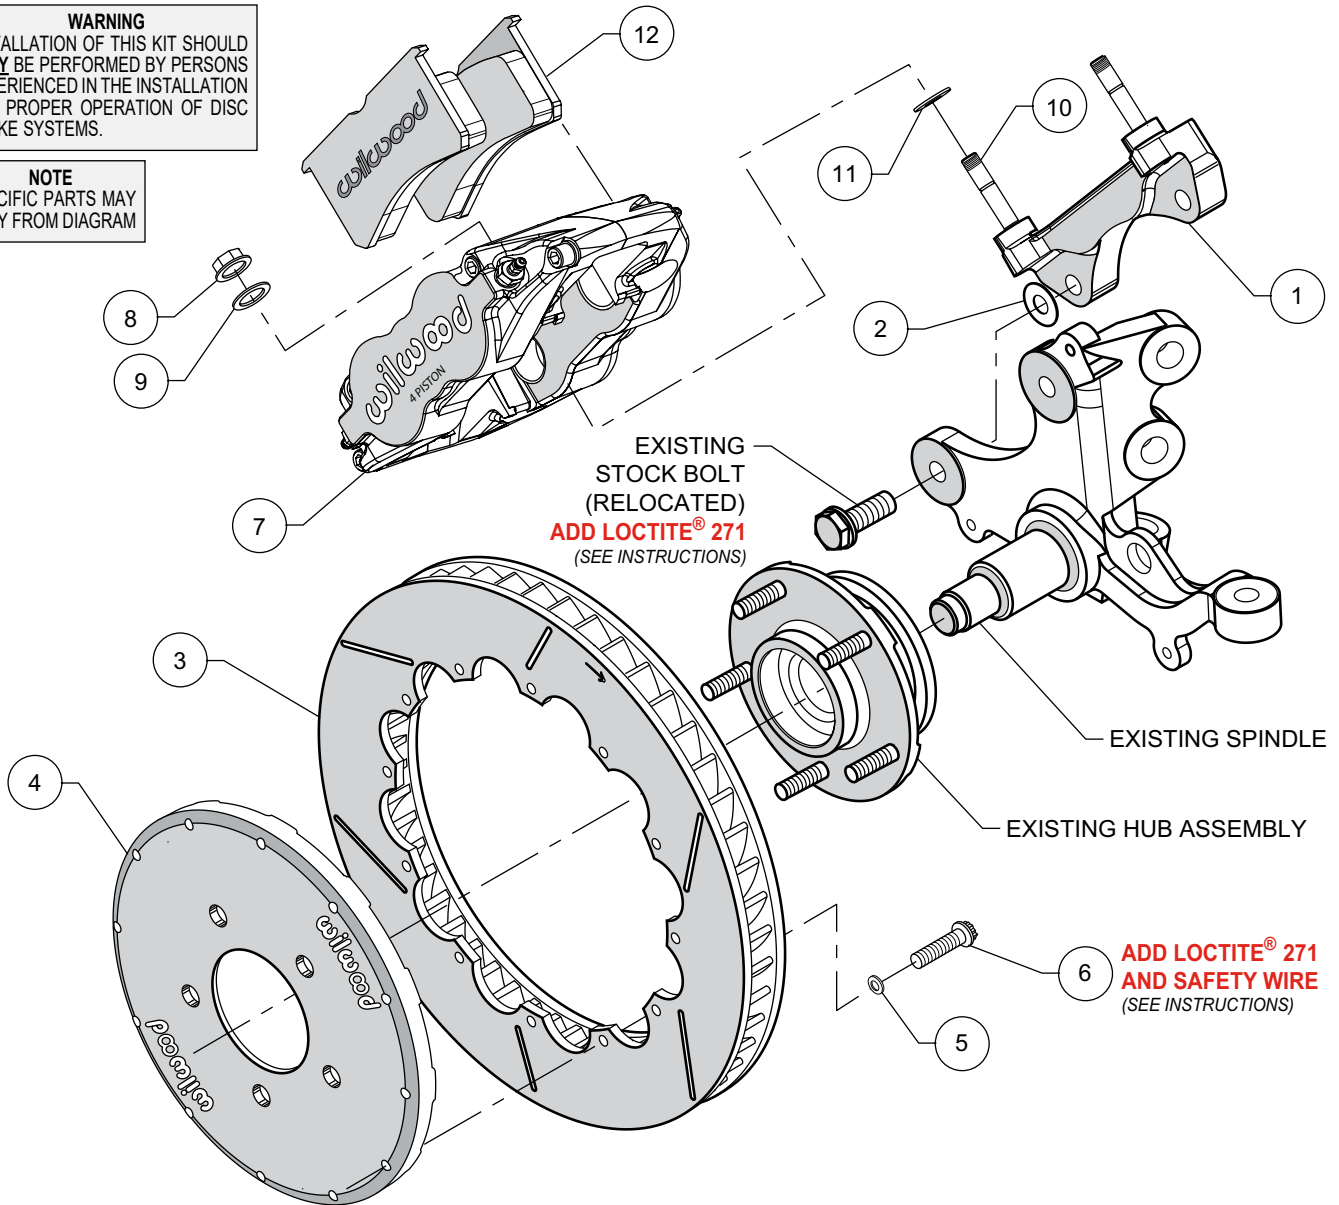
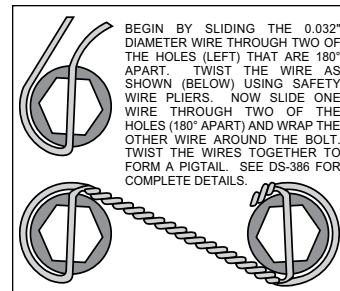

Figure 1. Typical Installation Configuration
Figure 3. Safety Wire Diagram
Assembly Instructions (numbers in parenthesis refer to the parts list and Figure 1 on the preceding page):
- The caliper mount bracket (1) should initially be installed with clean, dry threads on the mounting bolts. Orient the bracket as shown in Figure 1, and install using OEM bolts from the outboard side (opposite from the way they were removed). Initially place one .033 thick shim (2) on each bolt between the bracket and spindle, Figure 1. Temporarily tighten the mounting bolts. Later, after the caliper alignment has been checked, the mount bolts will be secured using red *Loctite*® 271.
- Orient the rotor (3) and the hat (4) as shown in Figure 1 and Photo 1. Attach rotor to hat using bolts (6) and washers (7). Apply red *Loctite*® 271 to the bolt threads and torque to 155 **in-lb** using a criss-cross pattern. The bolts must be safety wired using standard 0.032 inch diameter stainless steel safety wire as shown in Figure 3. Refer to Wilwood's data sheet DS-386 (available at www.wilwood.com/Pdf/DataSheets/ds386.pdf) for complete safety wire installation instructions.
- NOTE:** This kit contains distinct right and left hand calipers that must be mounted in a specific direction, as described below. Initially place one .035" thick shim (11) on each stud (10) as shown in Figure 1 and Photo 2. Mount the caliper (7) onto the bracket (1) using lock nuts (8) and washers (9), Figure 1. Ensure that the caliper is mounted so that the largest pistons are at the rotor exit end of the caliper, in relation to the direction of rotor rotation. Temporarily tighten the lock nuts and view the rotor through the top opening of the caliper. The rotor should be centered in the caliper, Photo 3. If not, adjust by adding or subtracting shims (2) between the bracket and the spindle. Always use the same amount of shims on each of the two mounting bolts. Once the caliper alignment is correct, remove the stock bracket mounting bolts one at a time, apply red *Loctite*® 271 to the threads, and torque to manufacturer's specifications.
- Remove the caliper center bridge pad retainer bolt, nut, and tube from the caliper. Insert the brake pads (12) into the caliper, with the friction material facing the rotor, Photo 4. Check that the top of the brake pad is flush with the outside diameter of the rotor, Photo 5. If not, adjust by adding or subtracting shims (11) between the caliper and the bracket. After the caliper pad height is set, reinstall the center bridge pad retainer tube, bolt, and lock nut. The lock nut should be snug without play in the bolt or tube. Be cautious not to over tighten. Torque the caliper lock nuts (8) to 30 ft-lb.
- NOTE:** OEM rubber brake hoses generally cannot be adapted to Wilwood calipers. The caliper inlet fitting is a 1/8-27 NPT (use PTFE tape on pipe threads of adapter fitting for proper sealing to caliper). Install Wilwood's stainless steel braided flexline hose kit (13), P/N 220-6458 included with this kit. **Carefully route lines to prevent contact with moving suspension, brake or wheel components.** Wilwood hose kits are designed for use in many different vehicle applications and it is the installer's responsibility to properly route and ensure adequate clearance and retention for brake hose components.